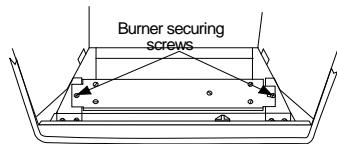
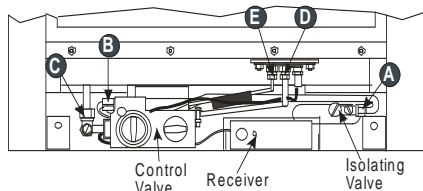

Figure 39
Figure 40
Referring to **Figure 39** and **Figure 40**:
2. Remove the main burner after removing the securing screws and lifting up the right hand side of the burner (see **Figure 39**).
5. Remove the main burner after removing the securing screws (see **Figure 39**).
6. Undo the nut securing the gas supply isolating elbow to the gas inlet tubing to the valve (Detail A in **Figure 40**).
7. Undo the nuts on the compression elbow underneath the injector and disengage the tubing (Detail C in **Figure 40**).
8. Remove the spark electrode from the pilot burner. Unscrew the tube nut below the pilot burner. Pull downwards and disengage the tube. The pilot injector will probably fall out. Keep it in a safe place (Detail D in **Figure 40**).